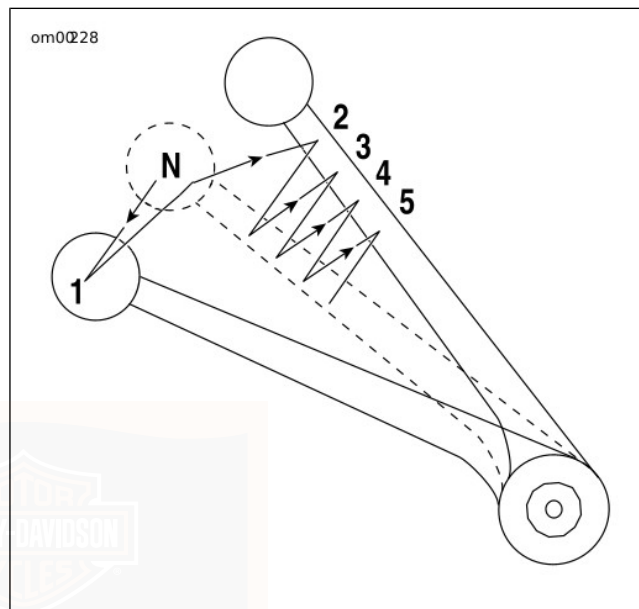

Figure 25. Gear Shift Lever (Upshift): VRSC Models
3. See Figure 25. Lift the gear shift lever up to the end of its travel and release.